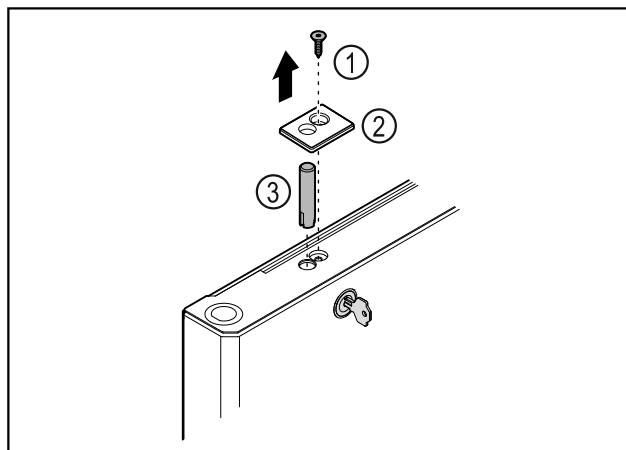

Fig. 38
- ▶ Remove the screw Fig. 38 (1).
- ▶ Unlatch the cover Fig. 38 (2) with a small screwdriver and remove it.
- ▶ Pull out the lock bolt Fig. 38 (3).